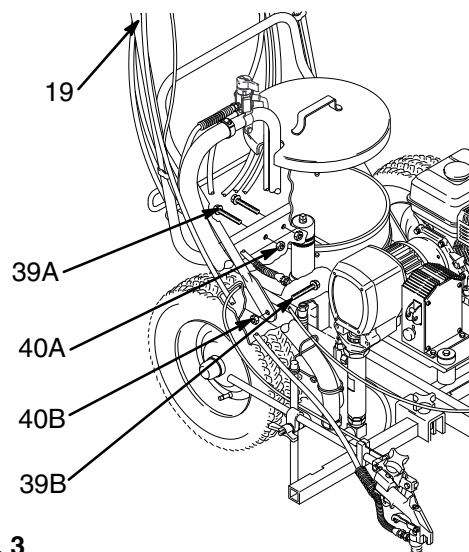

Fig. 3
2. Unpack the Linestriper. Carefully raise the handle (19) to a vertical position. Four screws (39) and lock-nuts (40) are packed in a bag. Install the two rear screws (39A) and finger tighten the nuts (40A). Install one screw (39B) and nut (40B) on each side of the handle. Firmly tighten all four nuts. See Fig. 3.